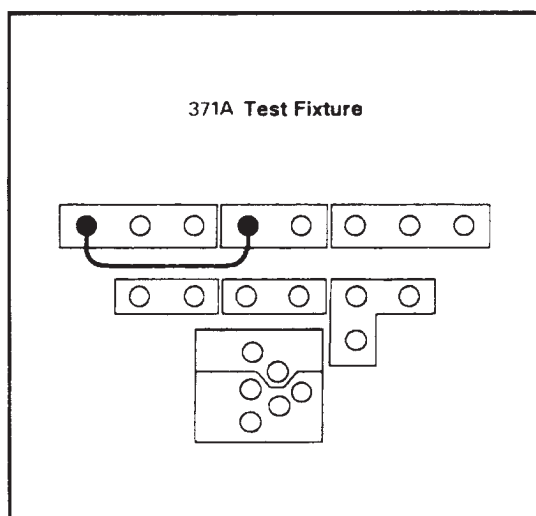

Figure 4-28. Setup for checking maximum peak current in HIGH VOLTAGE mode.
9. Move the patch cord from the HIGH CURRENT terminal to the HIGH VOLTAGE terminal as shown in Figure 4-28 and close the protective cover.